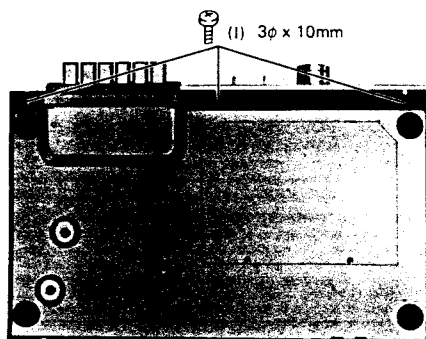

Figure 18
3. Remove the three screws (I). (See Figure 18)